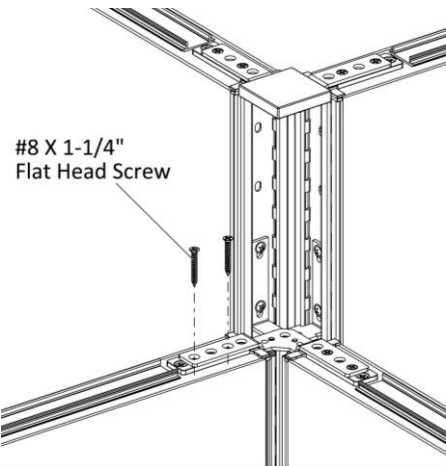

Figure 10
- 16. Drive two #8 X 1-1/4" Flat Head Screws through the holes in the intermediate panel connector into the panels, (Figure 10).